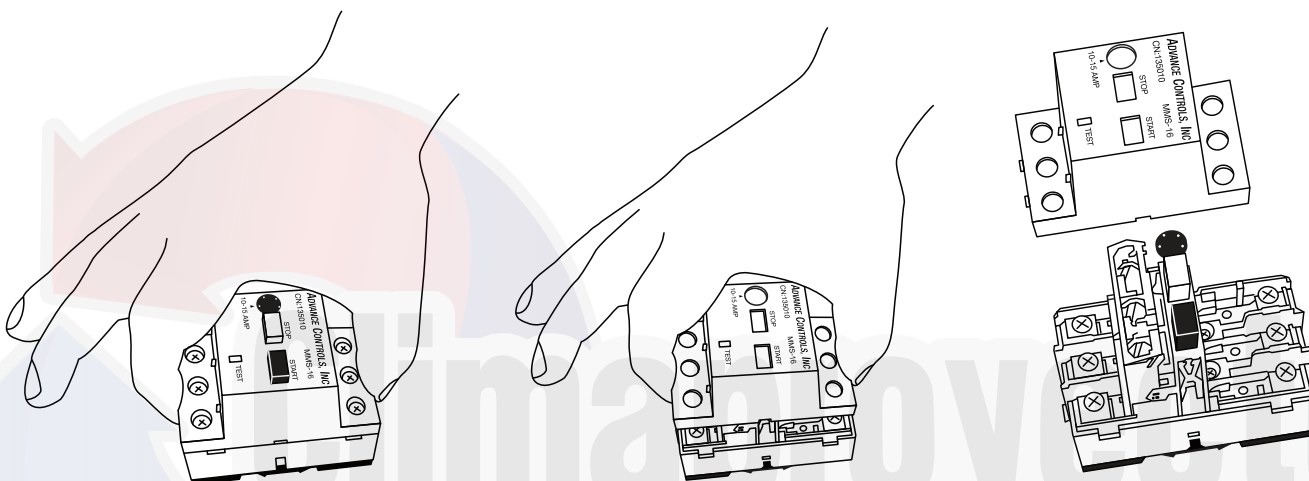

Fig. 116 — Removing the MMS Cover
4. Remove the top cover of the MMS by pressing lightly with thumb and forefinger by L2 and T2, and pull straight up. See Fig. 116.